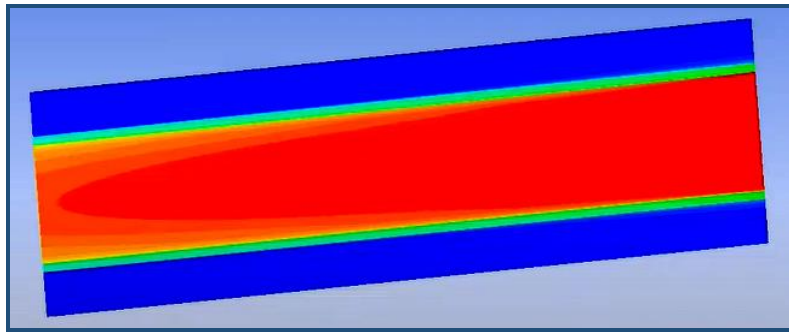

Figure 11.1: Temperature contour of parallel flow heat exchanger
5. Analyze the results using the Ansys CFD post to get the contour as shown in Figure 11.1.